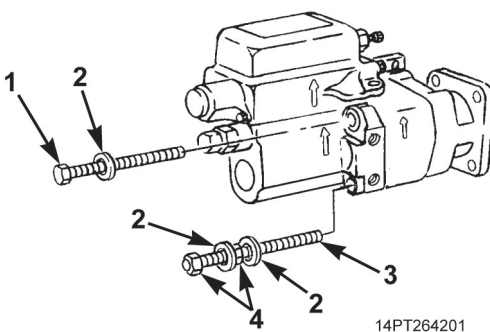

Figure 10. Pump Hardware Installation.
12. Install three screws (Figure 10, Item 1), three washers (Figure 10, Item 2), stud (Figure 10, Item 3), washer (Figure 10, Item 2), and nut (Figure 10, Item 4) in place to secure pump housings. Tighten screws and stud in crisscross pattern and torque to 200 lb-ft (271 N•m). Check for free shaft movement by turning drive shaft with a wrench.
13. Install one washer (Figure 10, Item 2) and nut (Figure 10, Item 4) on stud (Figure 10, Item 3) and tighten by hand.